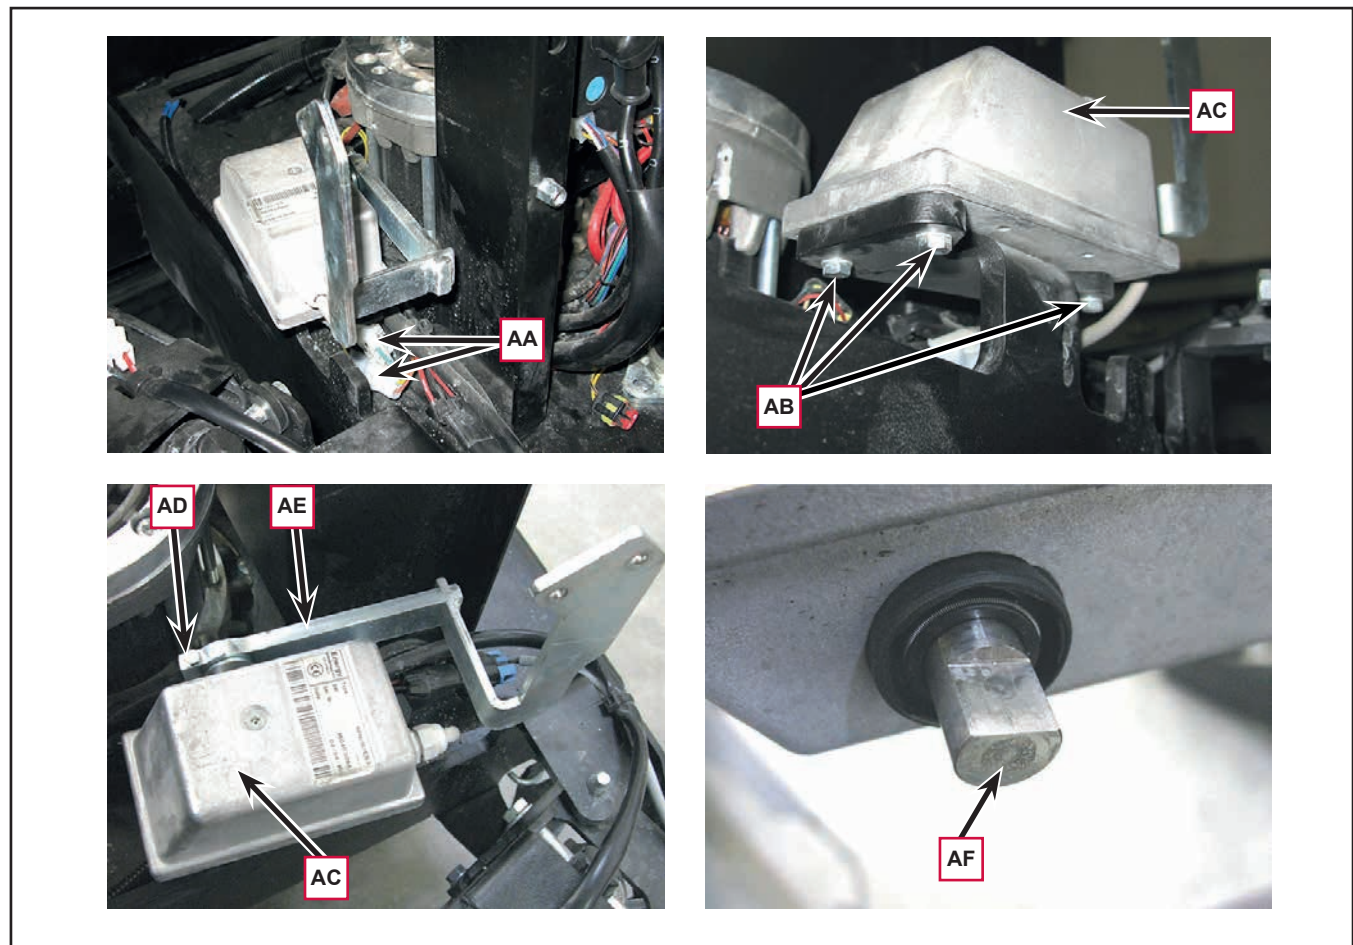

Figure 16
20. Disconnect the two electrical connections (AA, Figure 16) of the accelerator pedal; if necessary, cut any clamps in the way.
21. Unscrew the screws (AB) and remove the accelerator pedal (AC).
22. If necessary, go to the workbench to unscrew the screw (AD) and remove the lever (AE) from the accelerator pedal (AC), freeing it from the shaft (AF) with seat.